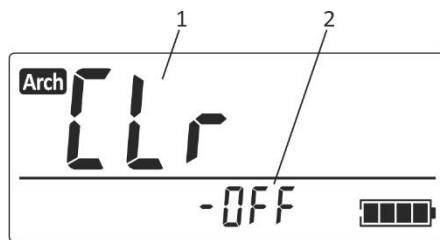

Figure 2.38 – LCD of the dosimeter
2.3.6.10.3.1 To proceed to the submode of measurement results clearing from the nonvolatile memory, press UNITS/CLEAR and hold it down (about 4 s) until “CLr” symbols appear on the LCD (Figure 2.38). After that release UNITS/CLEAR.